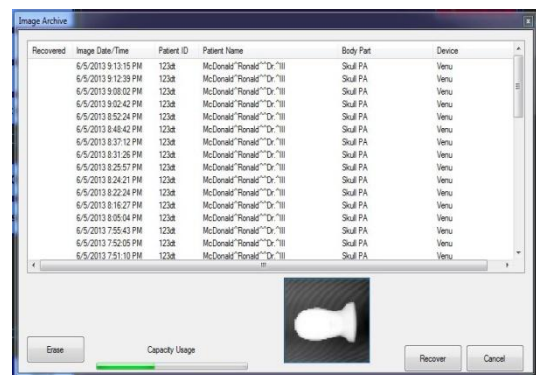

Figure 7
6. Select an image where the grid was used then click on the **Recover** button. **Figure 7**